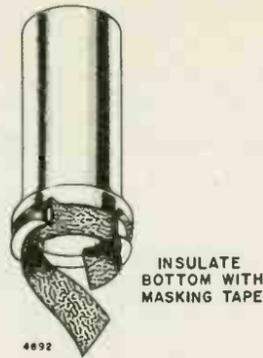

Figure 19. Special Tube Shield for IF Alignment and IF Response Curve Check.
3. **SPECIAL TUBE SHIELD:** For injecting 41 MC IF signal for IF alignment use in insulated tube shield over the VHF Oscillator-Mixer tube. Insulate bottom of tube shield with masking tape, see figure 19.
- Connect generator high side to 5CG8 mixer-osc. insulated tube shield, see figure 19. Connect low side to chassis near tube shield.